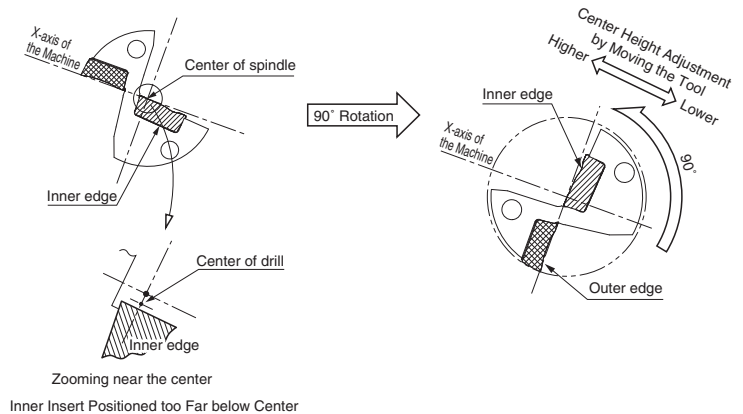

Fig. 9
- (2) If the core diameter becomes too large after the above adjustment, install the drill by rotating 90° counter-clockwise as shown in Fig. 9 (outer insert is positioned lower) and adjust the center height by moving the tool in the X-axis direction.